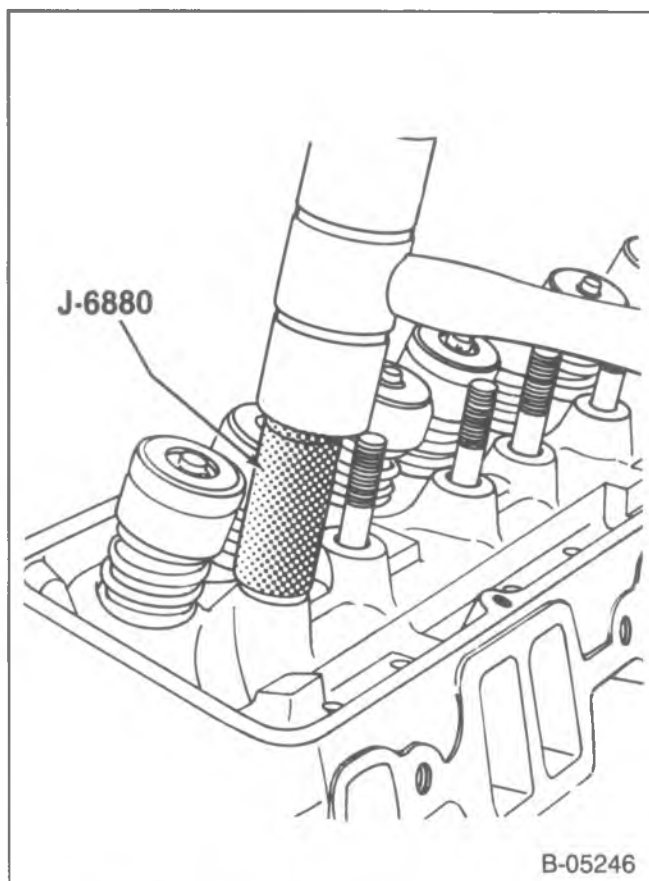

Figure 13—Installing the Rocker Arm Stud
1. Rocker arm stud. Use J-6880 (figure 13). Stud is installed to proper depth when the tool bottoms on the cylinder head.